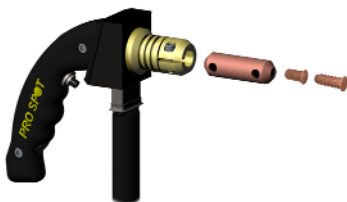

Figure 6.12
4. Fit Single Sided gun with the magnetic stud adapter (fig. 6.12).
5. Insert stud into the adapter (fig. 6.12).